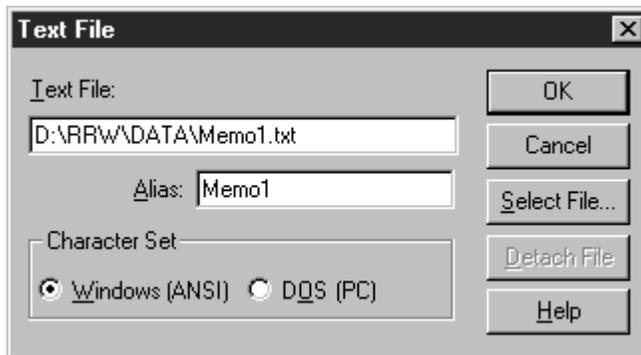

Figure 19.8 Insert Text File Dialog Box
1. Select Insert ⇒ Text File. On the Text File dialog (see Figure 19.8), either enter the name of the text file or choose Select File and choose from the listed files.